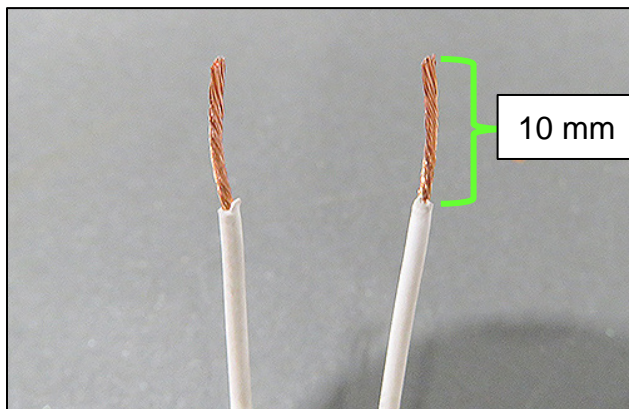
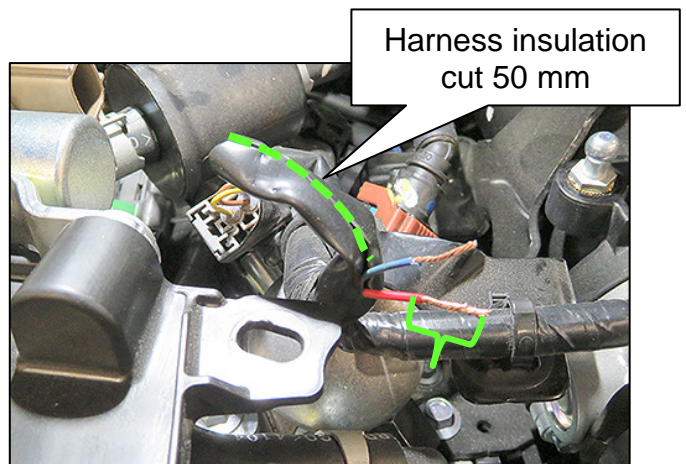

Figure 9
Figure 10
6. Cut the harness insulation down the middle approximately 50 mm, where shown in Figure 10.
7. Remove approximately 10 mm of insulation from the four (4) wires that are to be joined (Figure 9 and Figure 10).